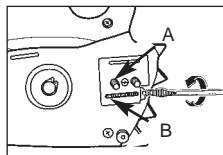

Fig. 3A
- Using a straight screwdriver or the screw, if provided in your User's Kit, turn the chain adjustment screw (A) counterclockwise as far left as it will go, or until the Tang (B) (projecting prong) is to the end of its travel. (See Fig. 3A)
- Loosen the bar retaining nuts (J) so they are hand tight. (See Fig. 3A)